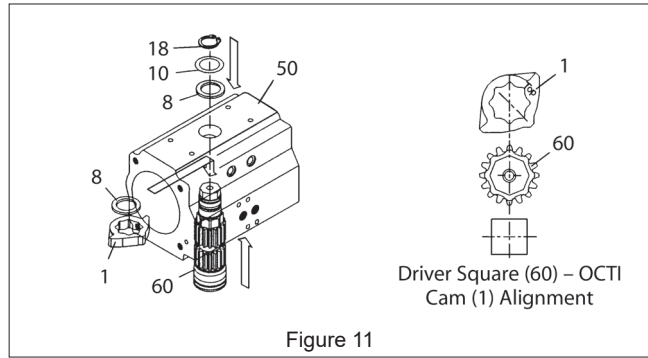

Figure 11
- Install the top and bottom shaft bearings (6, 7) and o-rings (21, 22) onto the shaft (60).
- Partially insert the shaft (60) into the body (50). Install the octi-cam (1) onto the shaft in the orientation shown in (Figure 11). The edges of the octi-cam (1) should align with the edges of the square in the bottom of the shaft (60). Insert the internal thrust bearing (8) over the octi-cam (1). Fully insert the shaft into the body (50).
- Install the external thrust bearing (8), thrust washer (10), and the spring clip (18).